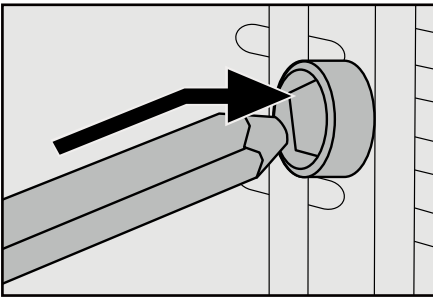

Fig. 1: Push the rotisserie (16) into the drive (1).
- Always use the tongs (12) to insert the hot rotisserie (16) into the appliance or to remove it.
- You can use the two skewer clamps (15) to fix the food onto the rotisserie (16). Loosen the restrainer (14) on the skewer clamps (15), push them so that the food is fixed firmly in between the clamps and then screw the restrainer (14) tight again.
- First push the end of the rotisserie (16) without the notch into the drive (1) (Figure 1):